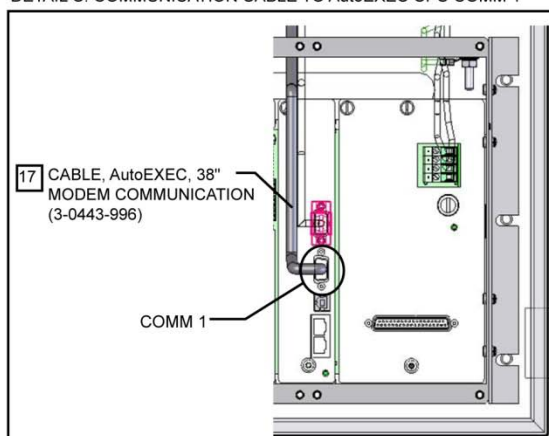

Figure 4-4. Modem connections
4. Reference Figure 4-4 for the following steps.
- Crimp the red and black wires (items 14 and 15) with a ferrule (item 16). Attach and secure the wires to the green connector.
- Connect the red wire (item 14) to TB1 position 1–3 (POS) and the black wire (item 15) to TB1 position 4–6 (NEG).
- b. Connect the communication cable (item 17):
- Using the washers and screws (items 18 and 19), connect the communication cable (item 17) to the modem at J4.
- c. Connect the modem ground wire (item 20):